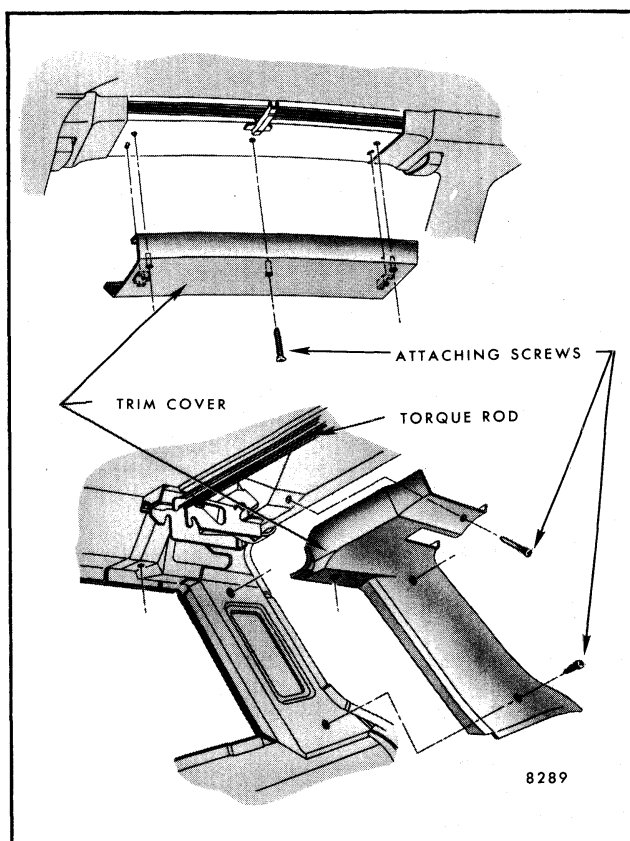
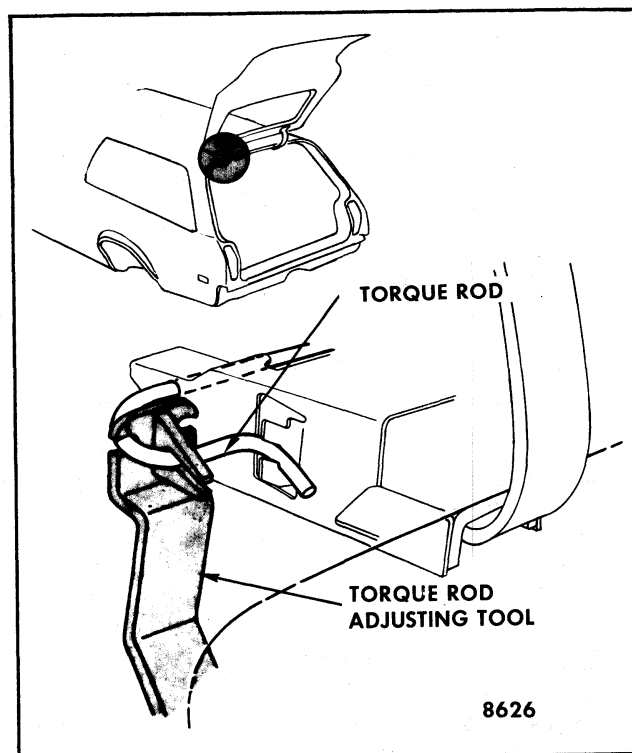

Fig. 7-80-Torque Rod Trim Removal - "H-15" Styles
Fig. 7-81-Torque Rod Adjustment - "H-15" Styles
1. To increase the amount of effort required to raise the back door or to decrease the amount of effort required to close the back door, reposition the end of the rod to a lower torque rod adjusting notch (Fig. 7-81).
2. To decrease the amount of effort required to raise the back door or increase the amount of effort required to close the back door, reposition the end of the rod to a higher torque rod adjusting notch (Fig. 7-81).
2. To remove torque rods, open back door and remove trim covers as shown in Figure 7-80, disengage end of torque rod from adjusting notches as shown in Figure 7-81. Then allow handle of removal tool to rotate forward to relieve tension on rod.